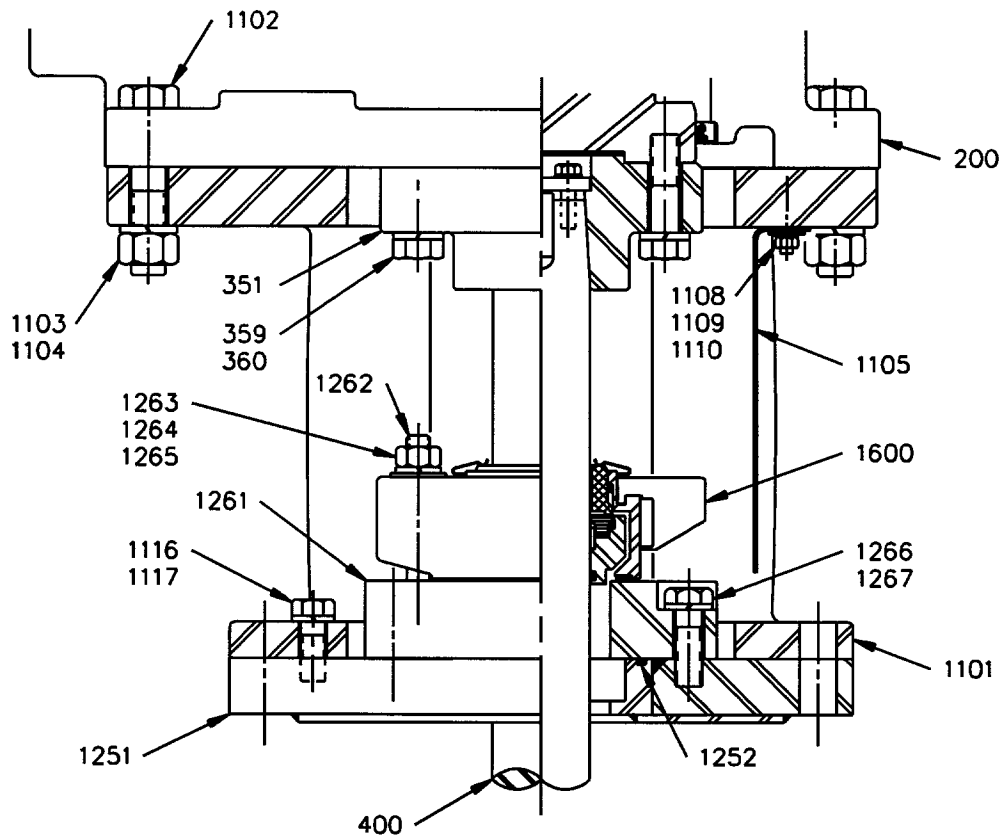

Figure 6: Split Chesterton 442 Seal
10. For GTNT units (Refer to Figure 6): Place o-ring [1252] into the groove in the mounting flange [1251]. Install seal adapter plate [1261] and bolts and lockwashers [1266, 1267]. Do not tighten bolts at this time.
19. Model GTNT: Center the seal adapter plate [1261] on the shaft. Torque bolts [1266] to the value shown in *Table 6*. Refer to *Figure 6, page 13*.